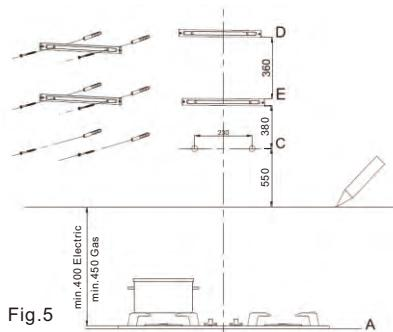

Fig.5
- When attaching the pipe, connect to the air outlet using a reducing connector (provided) (Fig.5).
- Secure both joints appropriately (Fig.5 & Fig.5.1)
### Wall mounting (Fig.5 & 6)